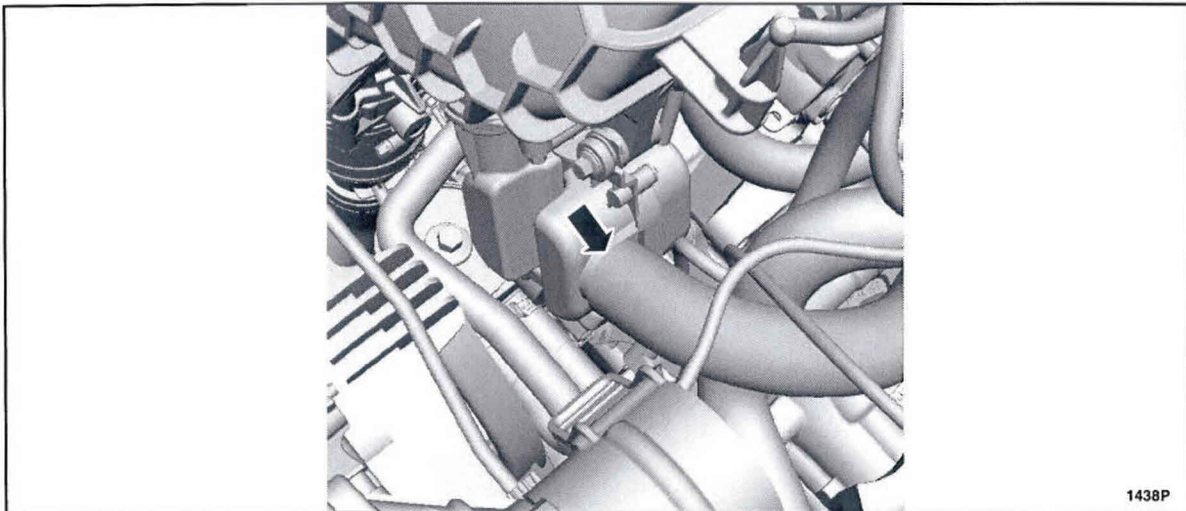

FIGURE 1
22. Position the lower radiator hose back in place. Install the radiator hose retaining clip and attach the push pin retainer onto the transmission. See Figure 1.
4. Disconnect and position aside the engine air cleaner intake tube. See Figure 1.